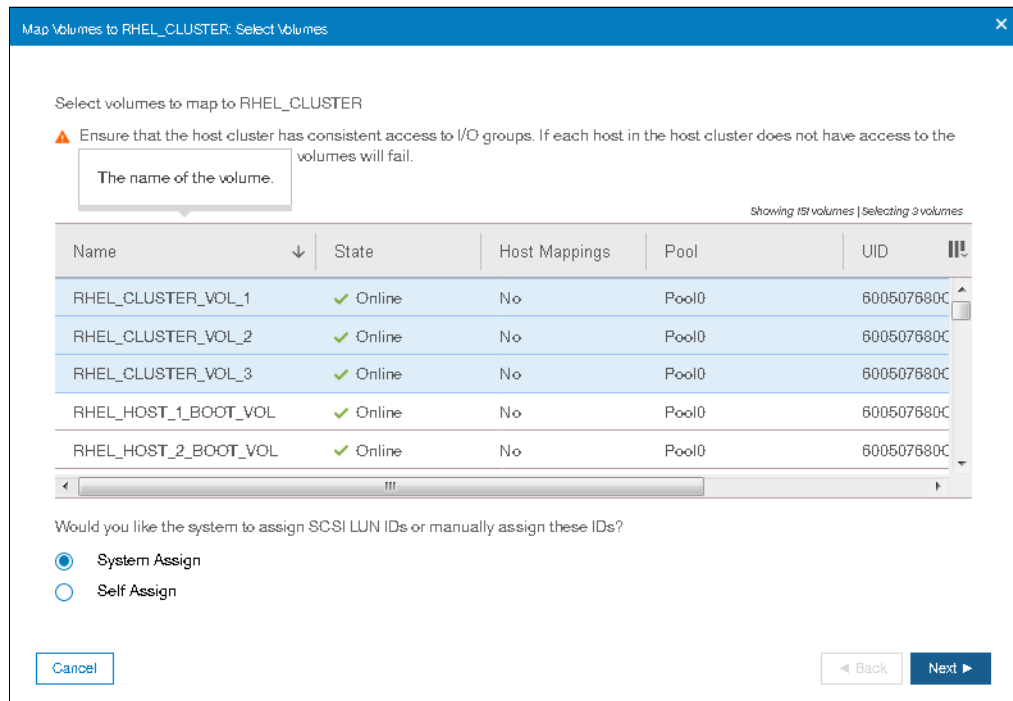

Figure 5-91 Selecting the list of volumes
5. Select the list of volumes to be mapped to the host cluster as shown in Figure 5-91.